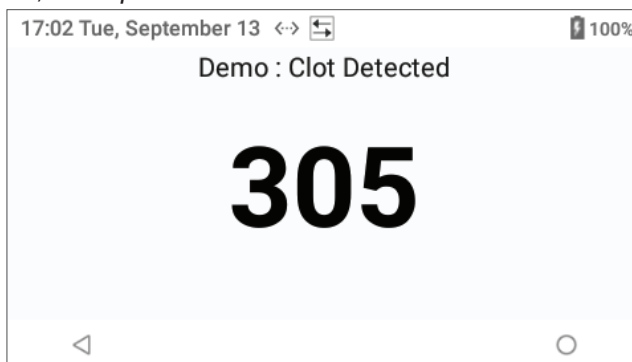

Figure 46: Demo – Clot Detected
- 5 The demo displays the test result as Celite equivalent ACT value in seconds when clotting is detected (Figure 46). At this point, the *Operator* could view more details about the test.